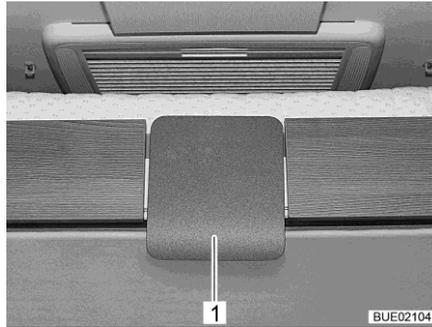

Fig. 139 Release plate on the pull-down bed (Ixeo I)
- Pull-down bed with latching mechanism: pull lower part at the release plate (Fig. 139,1) and pull pull-down bed downwards as far as it will go.